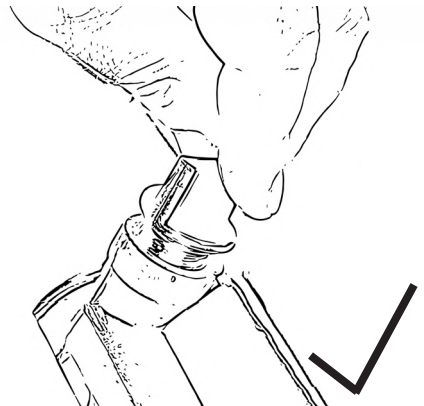

Figure 6
- Unscrew the oil filler plugs with connected dipstick, Fig. 6.